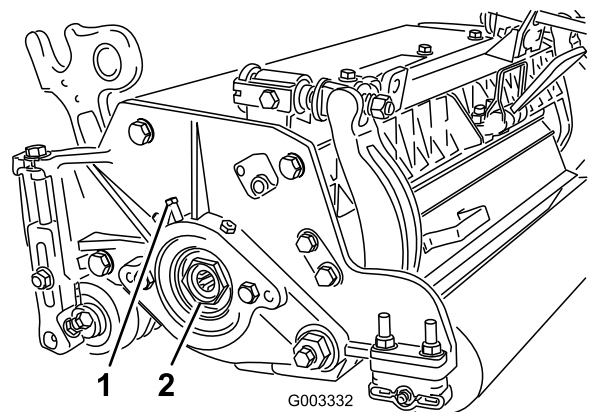

Figure 22
- A. Loosen external set screw securing bearing adjusting nut to bearing housing located on the left side of the cutting unit (Figure 22).